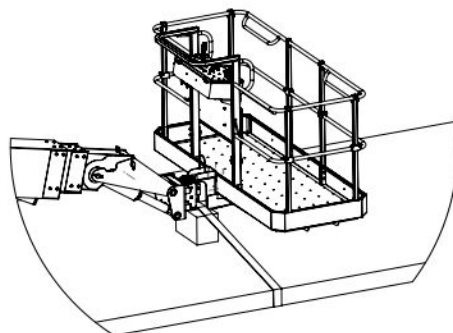

Figure 3-12. 82T Platform Tie-down
8. Place block underneath platform rotator and gently lower rotator onto block and secure in place. Strap must be secured underneath hoses and cables to avoid damage to aerial platform (refer to Figures 3-12 & 3-13). Do not use excessive downward force when securing platform.